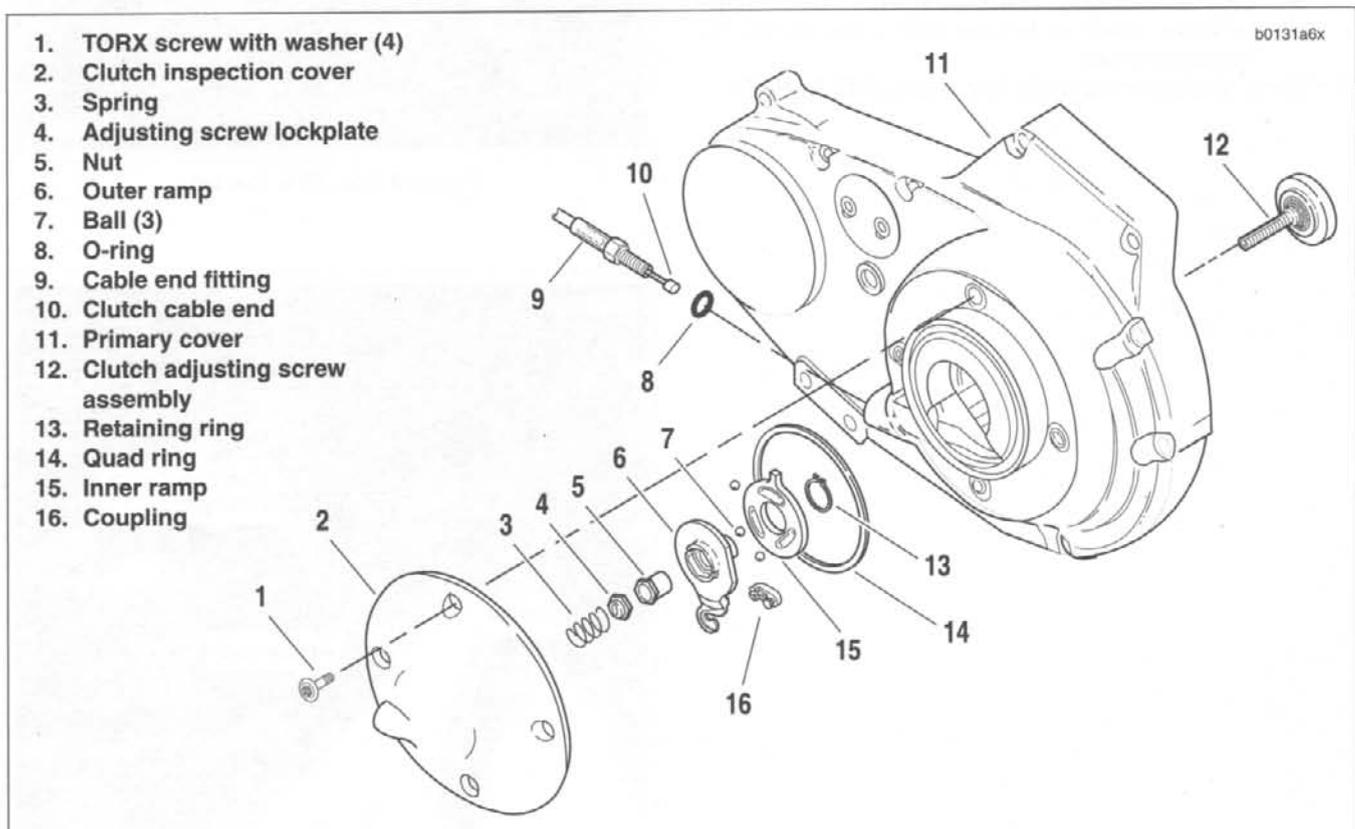
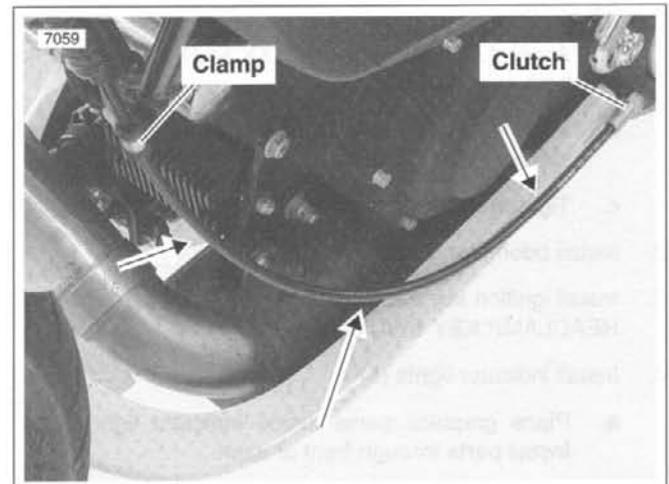

Figure 2-132. Clutch Release Mechanism
Figure 2-134. Clutch Cable Routing, Lower
2. See Figure 2-132. Remove four TORX screws (1) with washers and clutch inspection cover (2). Do not damage or dislodge quad ring (14) in primary cover (11).
3. Slide spring (3) with attached hex lockplate (4) from flats of adjusting screw (12).
4. Turn adjusting screw clockwise to release ramp and coupling mechanism. As the adjusting screw is turned, ramp assembly moves forward. Unscrew nut (5) from end of adjusting screw.
5. Remove hook of ramp (6) from button at the rear of cable end coupling (16). Remove cable end (10) from slot in coupling.
6. Turn cable end fitting (9) counterclockwise to remove clutch cable lower section from primary cover (11). Remove O-ring (8) from cable end fitting.
- See Figure 2-132. Install O-ring (8) over cable end fitting (9) of clutch cable lower section. Turn fitting clockwise to install into primary cover (11). Tighten to 3-5 ft-lbs (4.0-6.8 Nm).
- Fit coupling (16) over cable end. Place hook of ramp around coupling button and rotate assembly counter-clockwise until tang on inner ramp (15) fits in slot of primary cover (11).
- Thread nut (5) on adjusting screw (12) until slot of screw is accessible with a screwdriver. Fit nut hex into recess of outer ramp (6) and turn adjusting screw counter-clockwise.
- See Figure 2-134. Route cable along left side of primary chaincase and up to clamp on front isolator tie bar. Cable must not touch chin fairing.
- See Figure 2-134. Route cable down left side of bike, through clamp, along primary chaincase to clutch. Cable must not touch chin fairing.